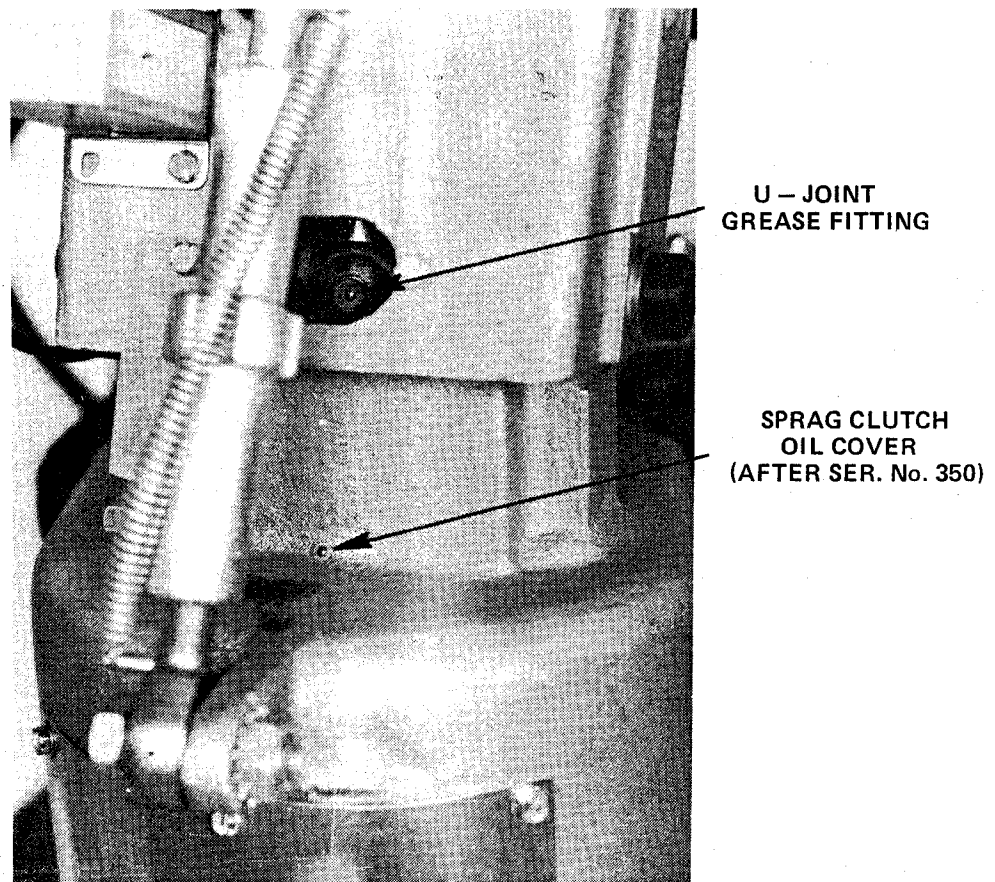

Fig. 102 — Lubrication Points
- A. **SPRAG CLUTCHES** — Lubricate with automatic transmission oil. On traps after Serial No. 320 this can be done thru oil hole in mainshaft housing (See Fig. 102 page S-13).
- C. **UNIVERSAL JOINT** — Lubricate with general purpose grease thru fitting in universal joint pivot pin (See Fig. 102 page S-13). To line up pin with access hole in universal housing **SAFE RELEASE TRAP AND REMOVE MAINSPRING ADJUSTING SCREW**. Loosen oil cover screws and pivot oil cover out of the way. The throwing arm can then be rotated by hand until the grease fitting becomes accessible. **NOTE:** do not rotate throwing arm more than 360° without again safe releasing trap.